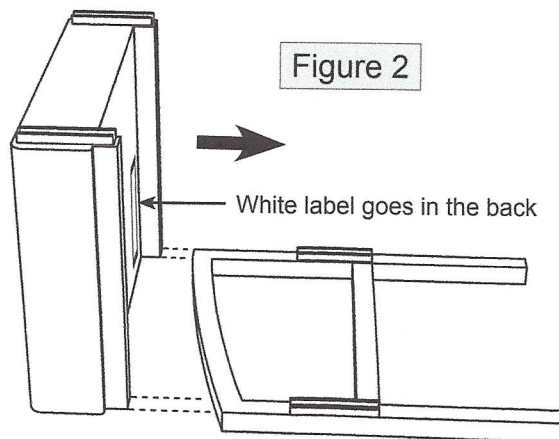

Figure 2
3. Attach the seat cushion to one leg frame by aligning the interlocking wedges and sliding them together simultaneously, as shown in figure 2. **Important: Keep these wedge connections loose for now.**